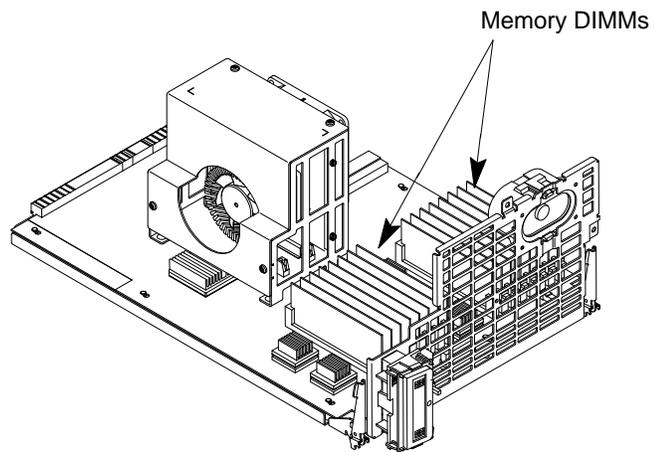

Figure B-21. Memory DIMM Location
5. Use Figure B-21 to locate the memory DIMMs on the CPU Assembly.